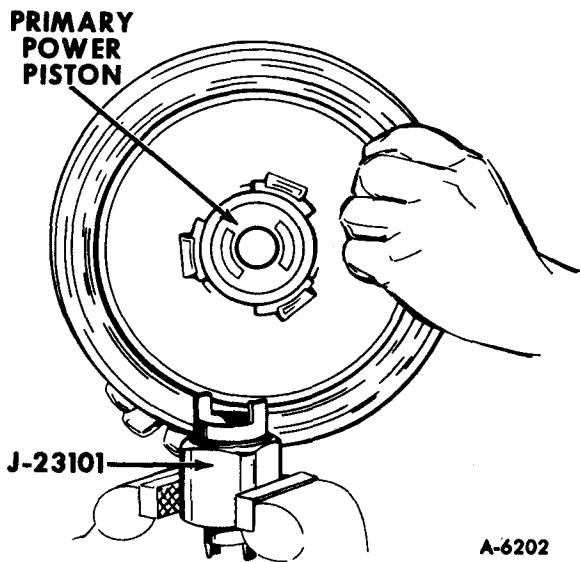

Figure 15—Positioning Primary Power Piston in Tool J-23101 (Small Dia. End Up)
piston so that the two radial slots in the piston fit over the ears (tang) of the tool (figure 15).
9. Mount Tool J-23101 (small diameter end up) in a vise. Position the primary power piston so that the two radial slots in the piston fit over the ears (tang) of the tool (figure 15).